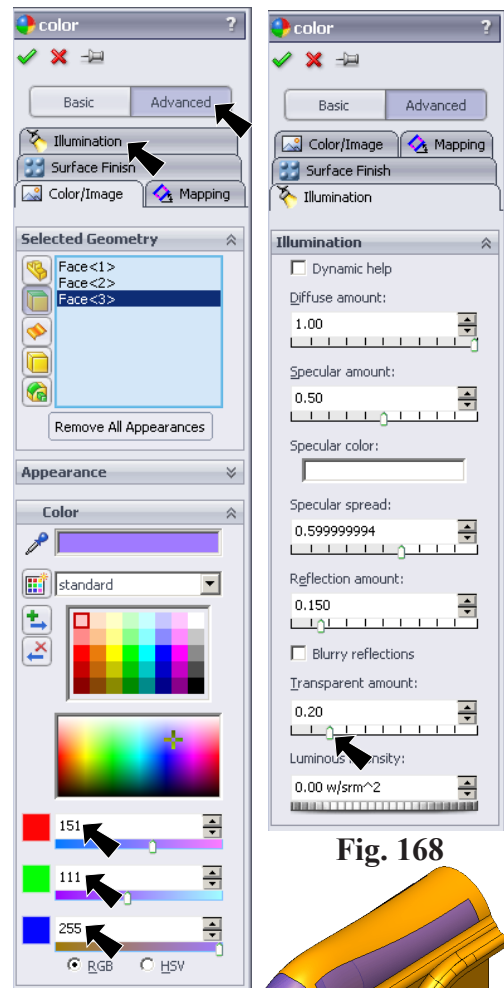
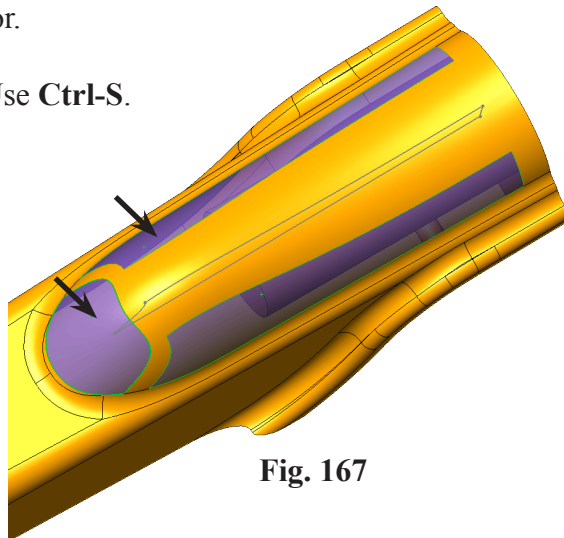

Fig. 166
Fig. 167
Step 3. In the Appearances Property Manager, click **Advanced button**, **Fig. 166** under Selected Geometry click the other two Split Line faces in the cockpit, **Fig. 167**
click **Illumination tab** , **Fig. 166**